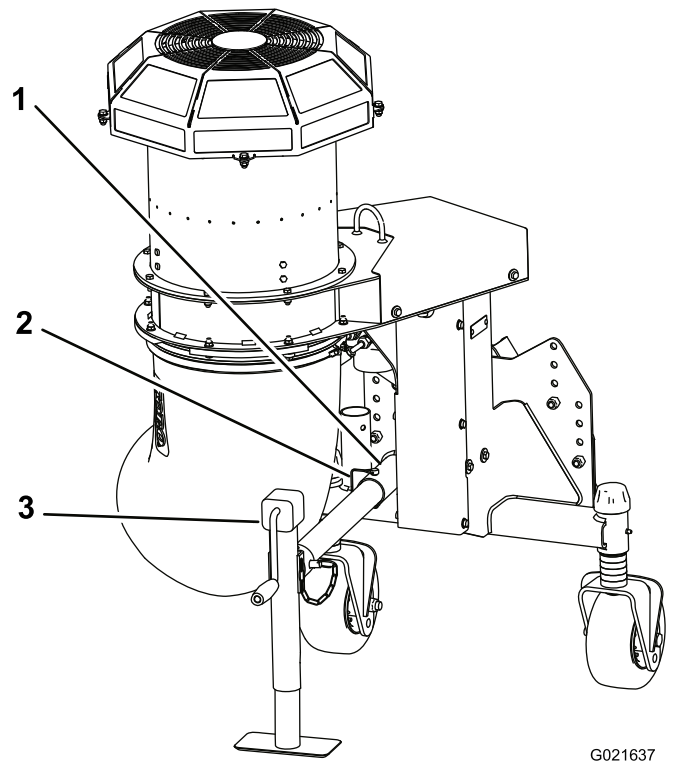

Figure 8
8. Insert the jack stand tube into the frame tube, align the holes and secure it into position with the snapper pin (Figure 8).